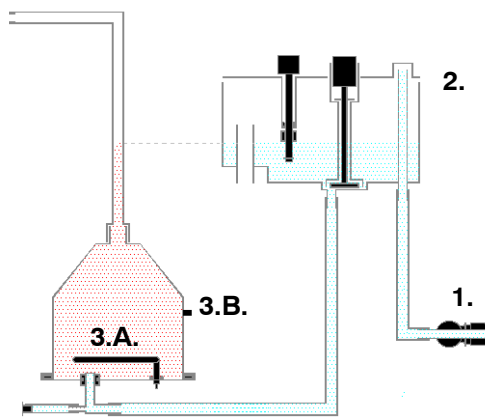

Fig. 1 The water dosing system
- The magnetic valve (fig. 1 , 1.) is opened and fills water in the float tank with a speed of litres per minute, depending on the pressure.
After the system is completely filled with water, element (fig. 1 , 3. A.) is switched on by means of a relay in the machine.
The temperature sensor (fig. 1 , 3. B.), which is mounted on the outside of the boiler, measures the actual temperature of the water. This ensures that the water in the boiler is heated to the desired final temperature.